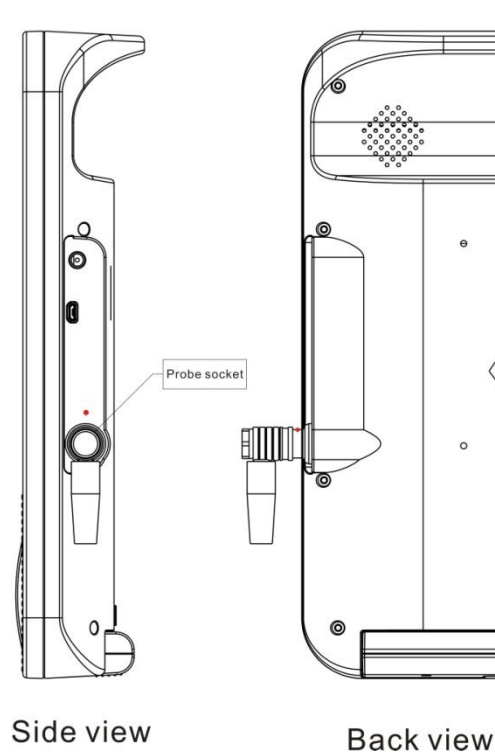

Figure 4-2 M5 Connect the probe with the console
- Connect the probe with the host machine: align the red dot on probe with the red dot on the side of the host. Plug in the probe (shown as figure 4-2)